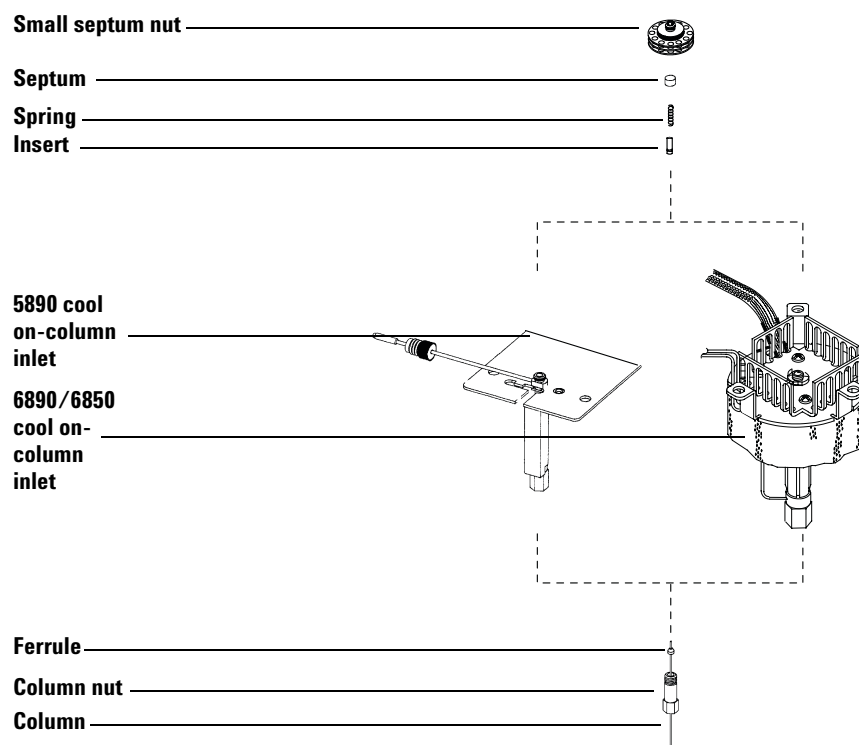

Figure 14 Changing the insert
- 2 Remove the column, the column nut and the ferrule (Figure 14).